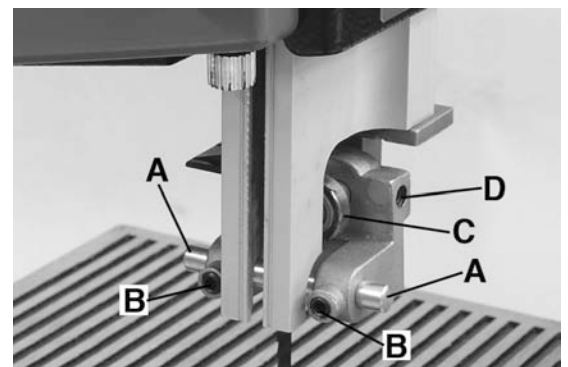

FIGURE 13
- 2) Slide the blade guide support until the front edge of the blade guides (A) Fig.13 are about 1/32" behind the gullet of the blade (behind the blade teeth). Tighten the set screw.
- 5) Adjust the upper blade guide pins (A) Fig.13. Loosen the two set screws (B) and press the two guide pins evenly against the sides of the blade. Make sure that you don't pinch the blade. Release the guide pins and rotate the upper wheel, moving the blade downward. Make sure that one guide pin is not further away from the blade than the other. Tighten both set screws (B).
- 7) Adjust the upper back-up bearing. Loosen the upper bearing set screw (D) Fig.13 using a hex. key.